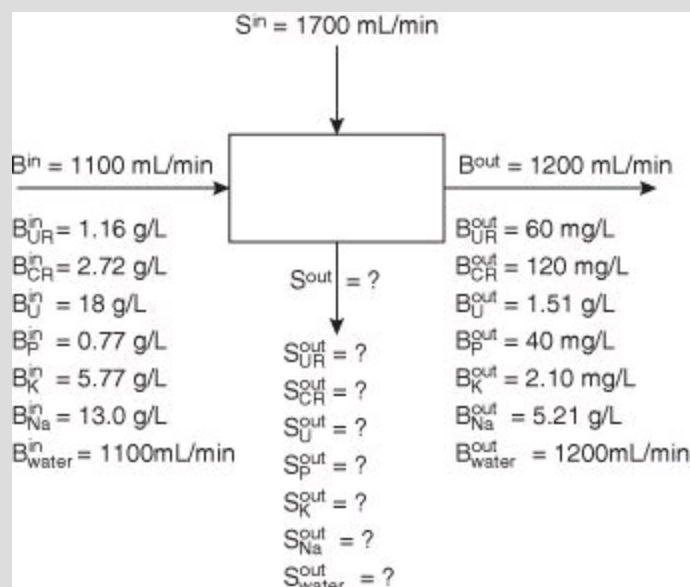

Figure E4.7b
This example focuses on the plasma components in streams S (solvent) and B (blood): water, uric acid (UR), creatinine (CR), urea (U), P, K, and Na. You can ignore the initial filling of the dialyzer because the treatment lasts for an interval of two or three hours. Given the measurements obtained from one treatment as shown in Figure E4.7b, calculate the grams per liter of each component of the plasma in the outlet solution.
The data have been inserted on Figure E4.7b.